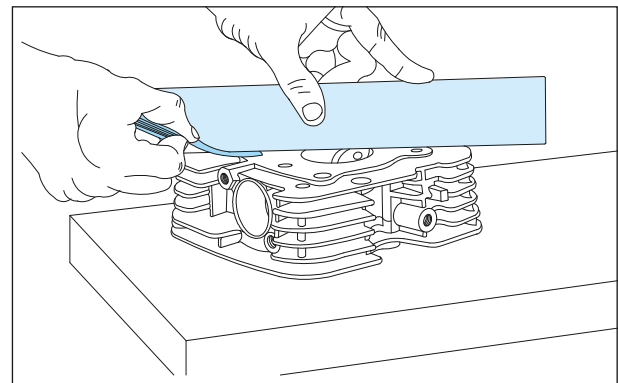

Fig. 3.114
- Using straight edge and feeler gauge, check for the distortion of head complete cylinder. If the reading exceeds the limit, replace the head complete cylinder with a new one. (Fig. 3.114)